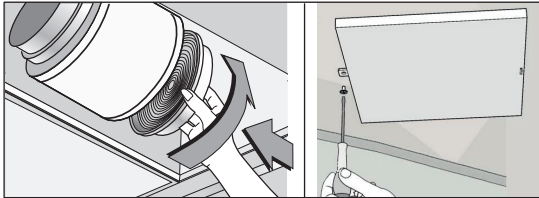

Fig.7
•ACTIVATED CARBON FILTERS (Only filtering types) (Fig. 7):